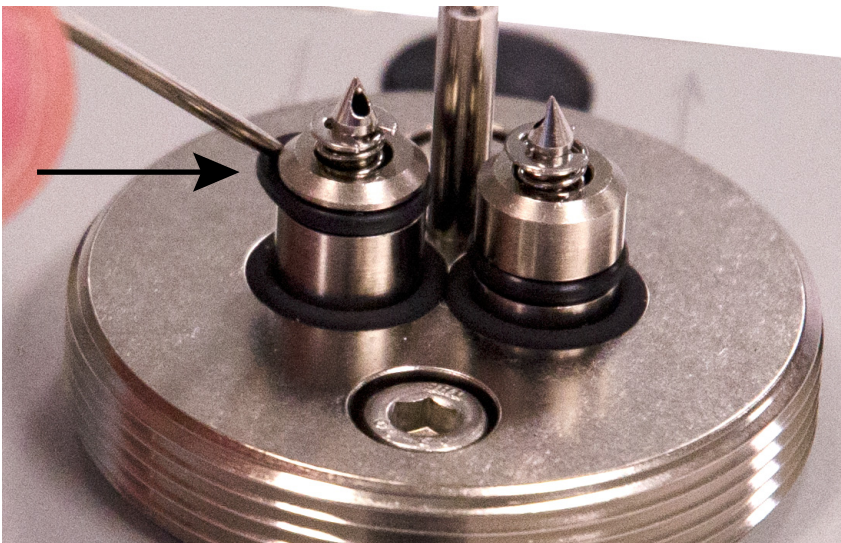

Figure 30 Remove upper pair O-rings only when replacing filter
- 6 Remove the old upper set of O-rings using the supplied tool and replace with new O-rings (Figure 30).